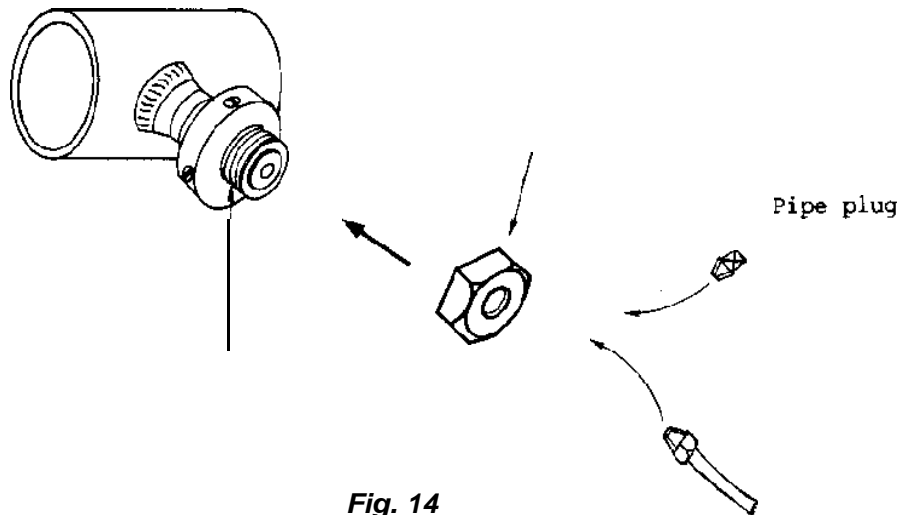

Fig. 14
15. Check external threads on the hydraulic access fitting. Lubricate them properly (fig. 14).
16. Put on the heavy duty protective cover. Tighten with a 4.134" (105 mm) spanner, or a suitable pipe wrench. This will take the load off the locking pins (fig. 14).
17. Reinstall the pipe plug (or continuous monitoring cable if applicable) (fig. 14).